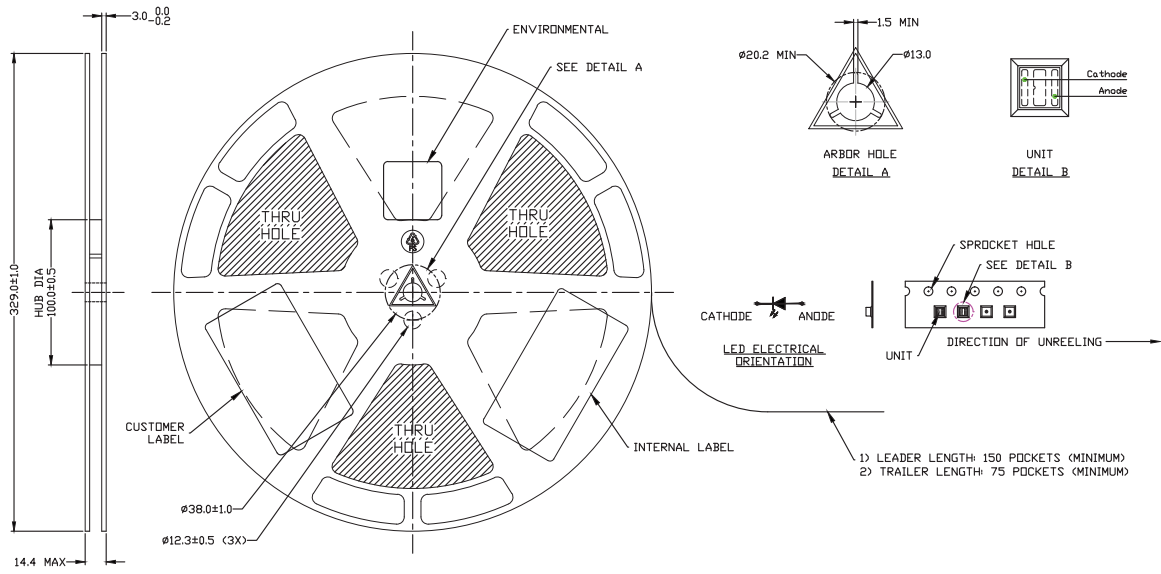

Figure 11a. Reel dimensions for LUXEON SunPlus 20 Line.
- Notes for Figures 11a and 11b: